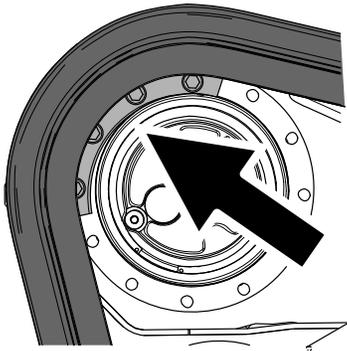

Figure 76
5. Move the traction control forward until the drive sprocket segment engages with the track (Figure 76).
10. Apply thread-locking compound to the bolts of the other drive sprocket segment that you removed and install the sprocket segment (Figure 76). Torque the bolts to 247 to 301 N·m (182 to 222 ft-lb).